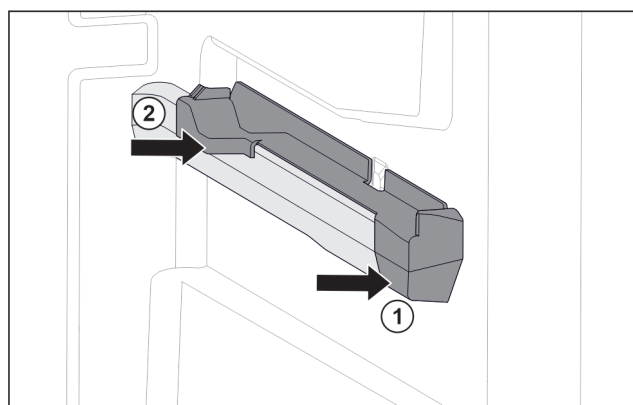

Fig. 44 Attachment on the right moulded rib
► Position attachment on moulded rib at the front. Fig. 44 (1)
► Press on attachment at the back. Fig. 44 (2)